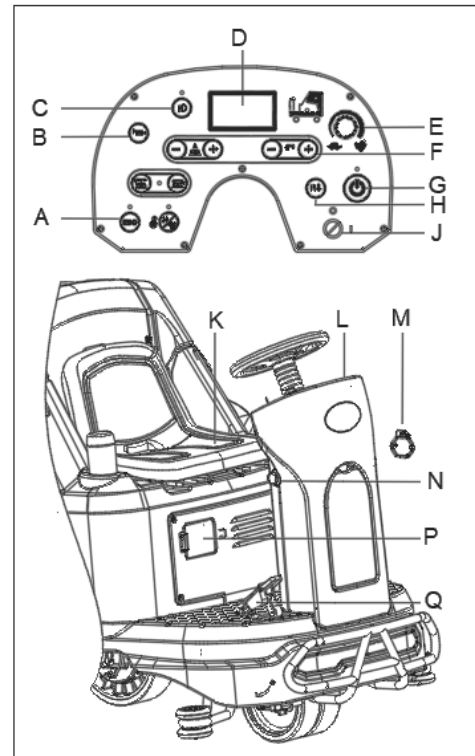

Figure 13
2. Sit on the seat (K Figure13), insert the Ignition key (J Figure13) and turn it to “I”. Check batteries status from display screen. If necessary to charge the batteries (see the procedure in Maintenance chapter).
- The forward/reverse direction can be controlled with the switch (H Figure13). The speed can be adjusted with the adjuster (E Figure13).
4. Press One-Start button (G, Figure13) to start the machine, the squeegee and brushes are lowered to the floor automatically, and the vacuum motor begins to work.
5. Press the solution flow control buttons (F, Figure13) as necessary, depending on the type of cleaning to be performed.
6. Depress the accelerator pedal (Q Figure13), and start cleaning.
7. You can charge your phone or pad through USB charging port (M Figure13) when the Ignition key (J Figure13) is turned to “I”.
8. Press the horn button (B Figure13) to warn people when necessary.
9. If necessary, press the emergency button (N Figure13) for machine emergency stop.
10. If necessary, press the front lights button (C Figure13) for dark areas or to warn pedestrians.
11. If necessary, adjust the seat (K Figure13) by turning right the handle on the right of seat, then slide the seat to proper position.
The brush motor, vacuum motor, drive motor and control circuit are protected by overload protector (P Figure13). When an overload protector trips, do not reset it immediately without finding out the root cause, and make sure the motor has cooled before reset.
12. Release the accelerator pedal (Q Figure13), the machine stops running.
13. Press One-Start button (G Figure13) to stop brushes and vacuum motor. The brushes and squeegee are lifted from the floor automatically. The vacuum system will turn off after a few seconds.